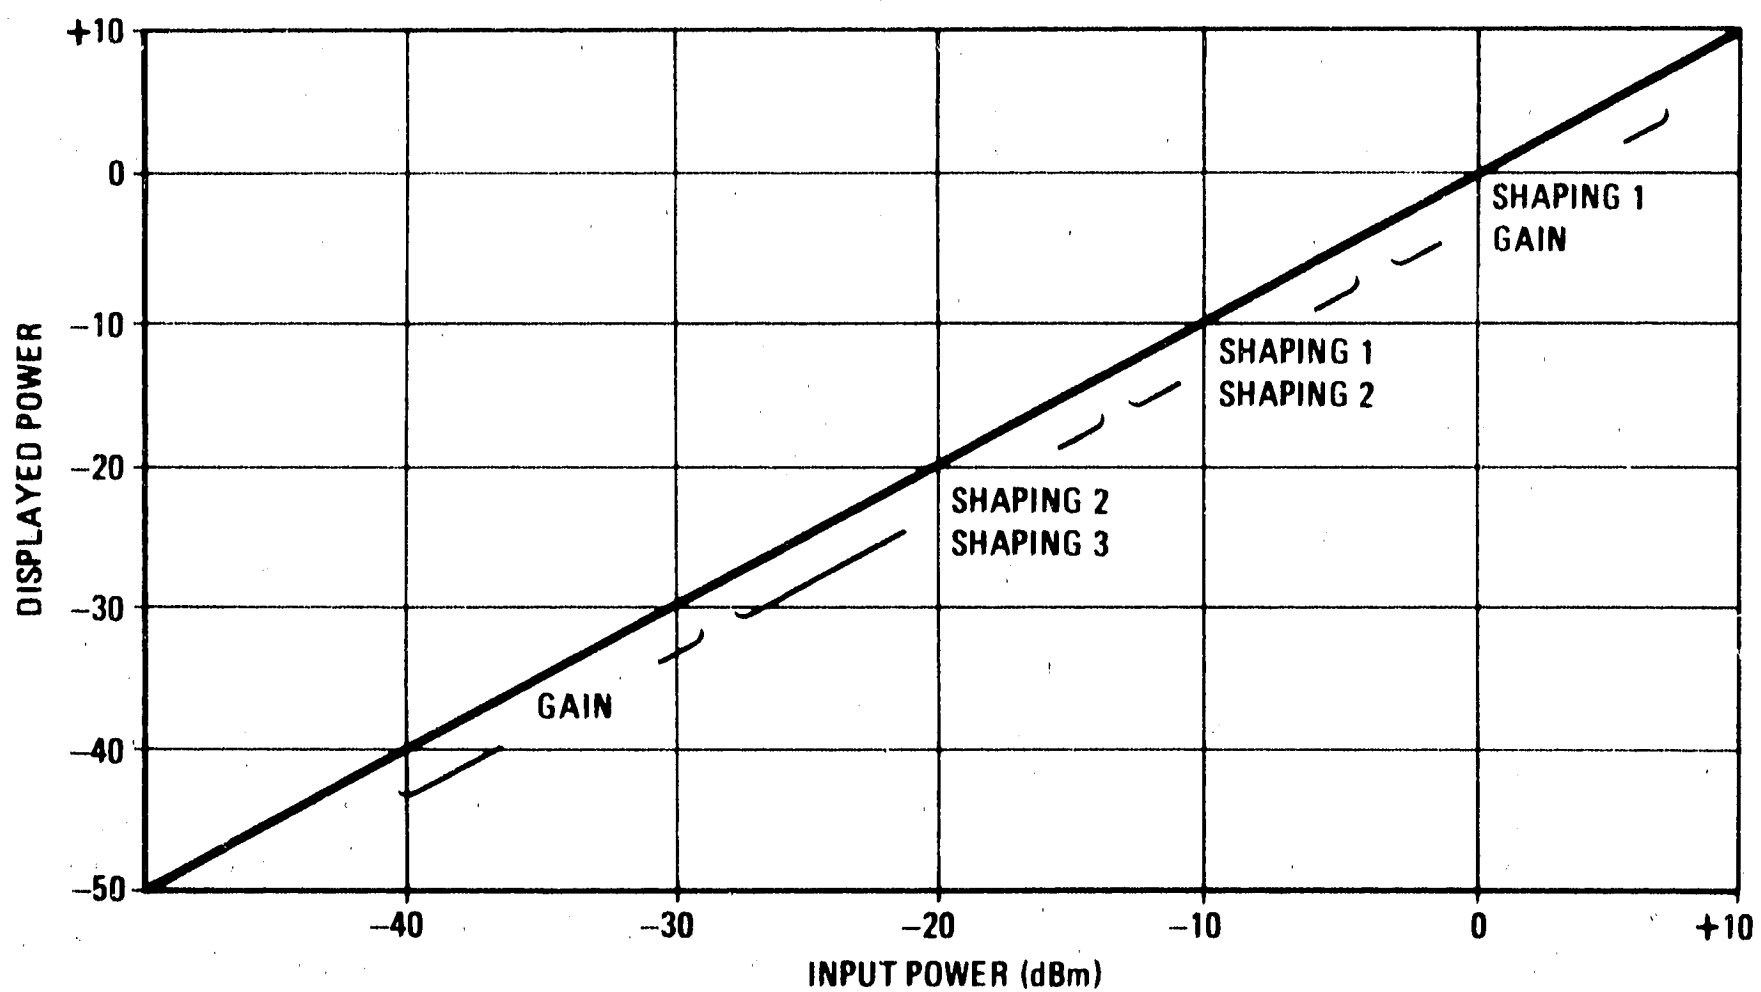

Figure 5-3. Graph for Log Amplifier Adjustment
- k. Adjust the appropriate log amplifier internal GAIN and SHAPING controls to obtain the desired amplitude response. A response curve is shown in Figure 5-3 and Table 5-2 shows the adjustments. These are included as an aid in making these adjustments. Course adjustments should be made first and then finer adjustments made until the amplitude response is within ± 0.5 dB (\pm the tolerance of the calibrated attenuators) over the detector input range of $+10$ dBm to -50 dBm.